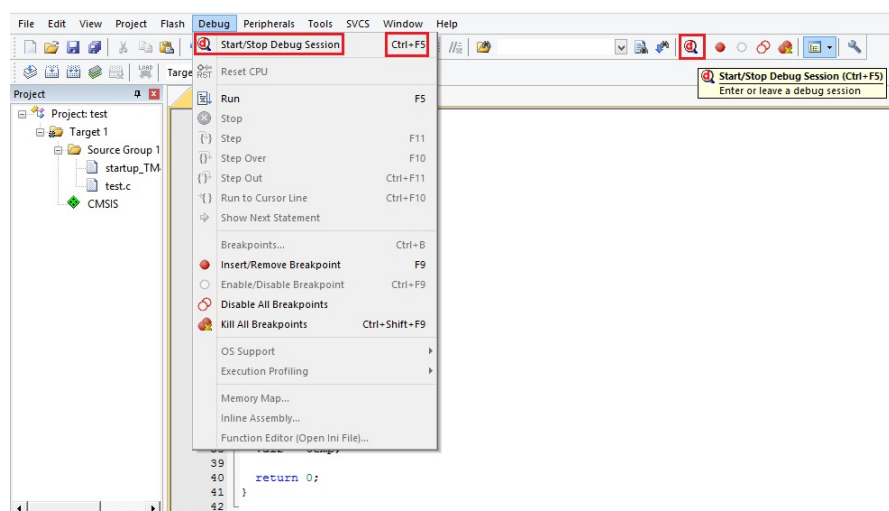

Figure 1.16: Build the project
8. Next step after writing the code is to build your code. As shown in Figure 1.16 click on *Project* menu and select *Build Target* from the drop down list. You can also build your project by clicking *Build* button in *Build bar*. *Build Output* window at displays the errors, warning and build messages during build process. Double-click a message to open the corresponding source file. *Build* button translates modified or new source files and generates the executable file. The *Rebuild* command translates all source files regardless of modifications. *Simulation* highlighted at the bottom signifies that we are not downloading our code on hardware.